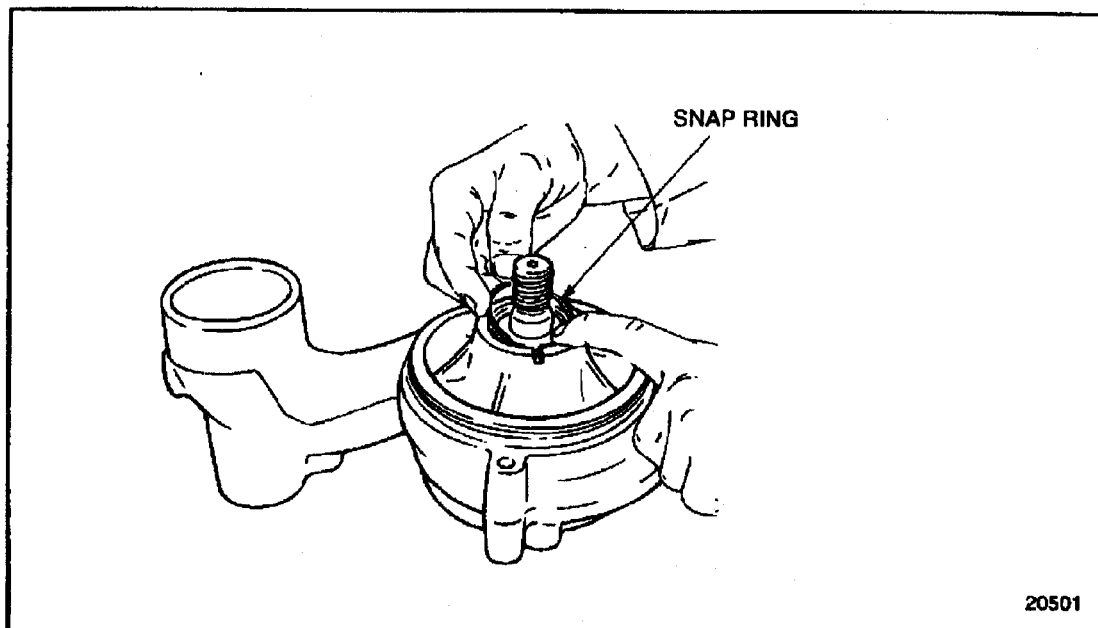

Figure 4-53 Snap Ring Installation (FM)
10. Install the snap ring to the water pump housing. See Figure 4-53.